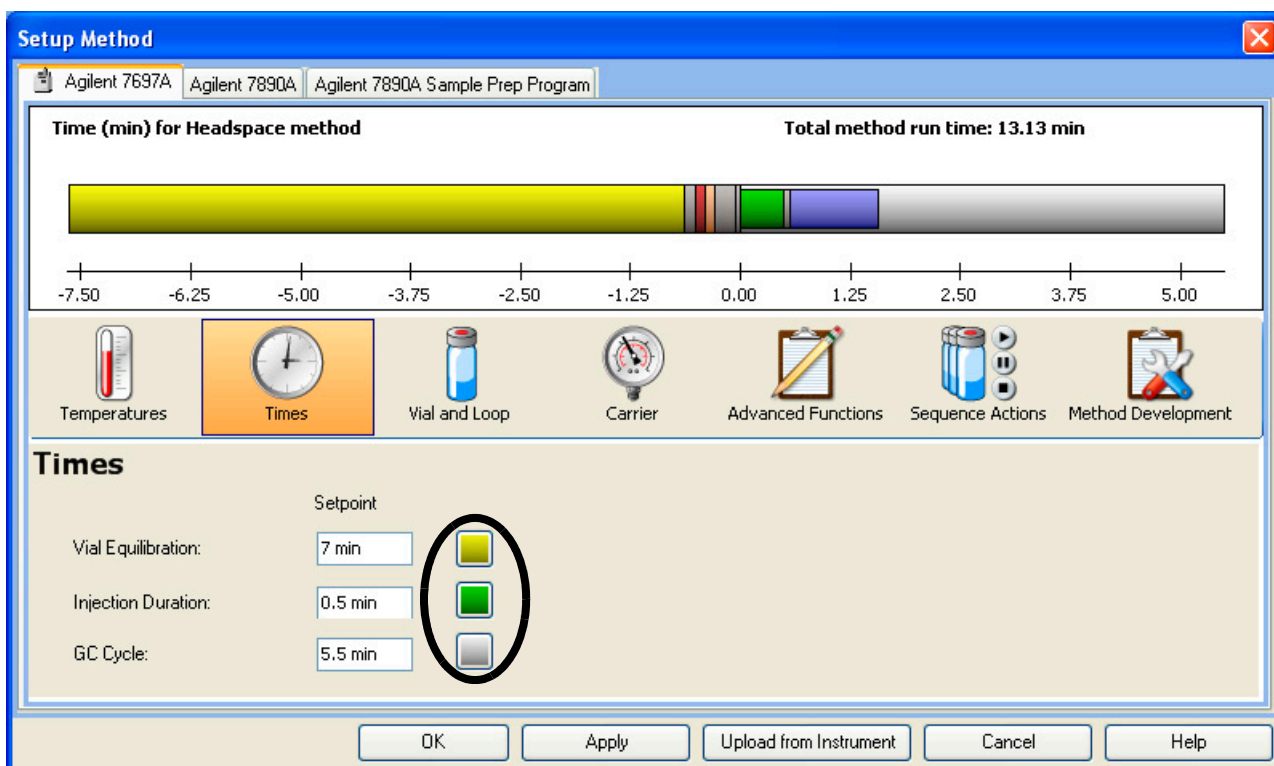

**Figure 15** Setting the time parameters
- 4 Select the **Times** icon and set the parameters shown in Figure 15.